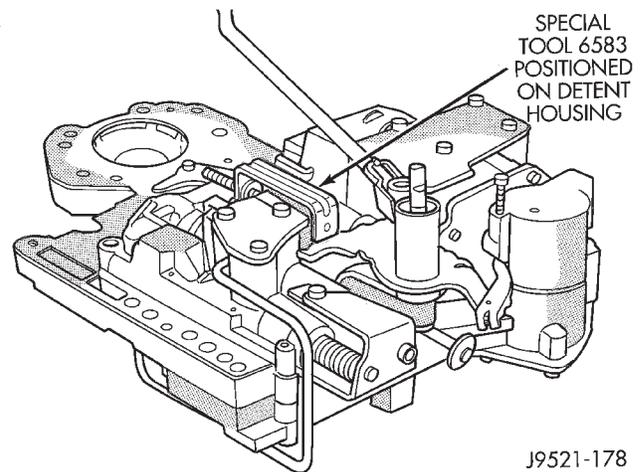

Fig. 110 Detent Ball Spring
- (1) Install boost valve, valve spring, retainer and cover plate. Tighten cover plate screws to 4 N·m (35 in. lbs.) torque.
- (2) Insert manual lever detent spring in upper housing.
- (3) Position detent ball on end of spring. Then hold detent ball and spring in detent housing with Retainer Tool 6583 (Fig. 110).
- (4) Install throttle lever in upper housing. Then install manual lever over throttle lever and start manual lever into housing.
- (5) Align manual lever with detent ball and manual valve. Hold throttle lever upward. Then press down on manual lever until fully seated. Remove detent ball retainer tool after lever is seated.
- (6) Then install manual lever seal, washer and E-clip.